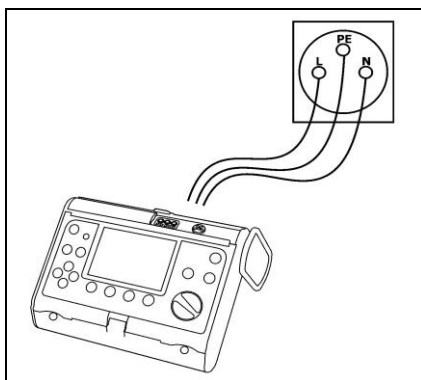

Fig. 4. Connection of the meter
- connect the meter to the power network socket of the board using leads, in accordance with Figure 4,